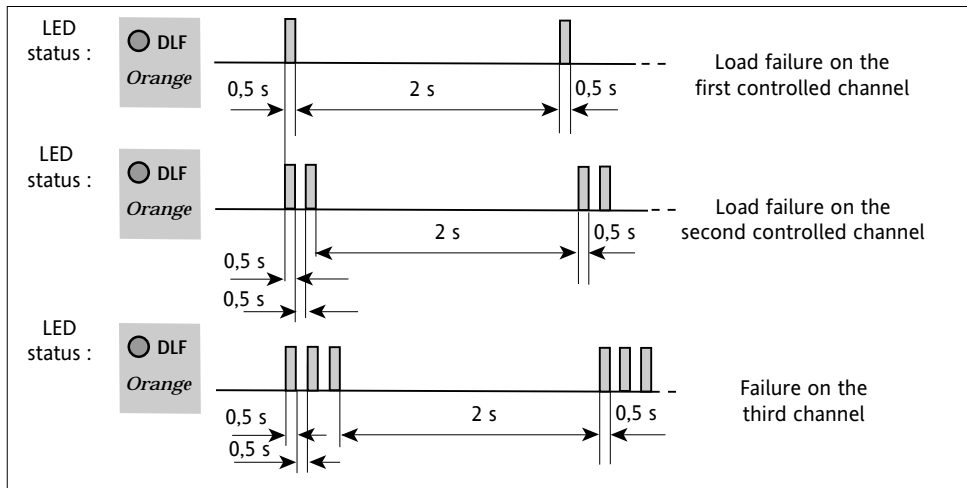

Figure 3-2 Signalling of channel for load failure on the DLF LED
- The DLF indicator flashes in a particular way to indicate the channel on which the load failure has occurred (see figure 3-2).
Figure 3-2 shows the three types of flashing if a load failure is detected on one of the channels of the 7200S solid state contactor.